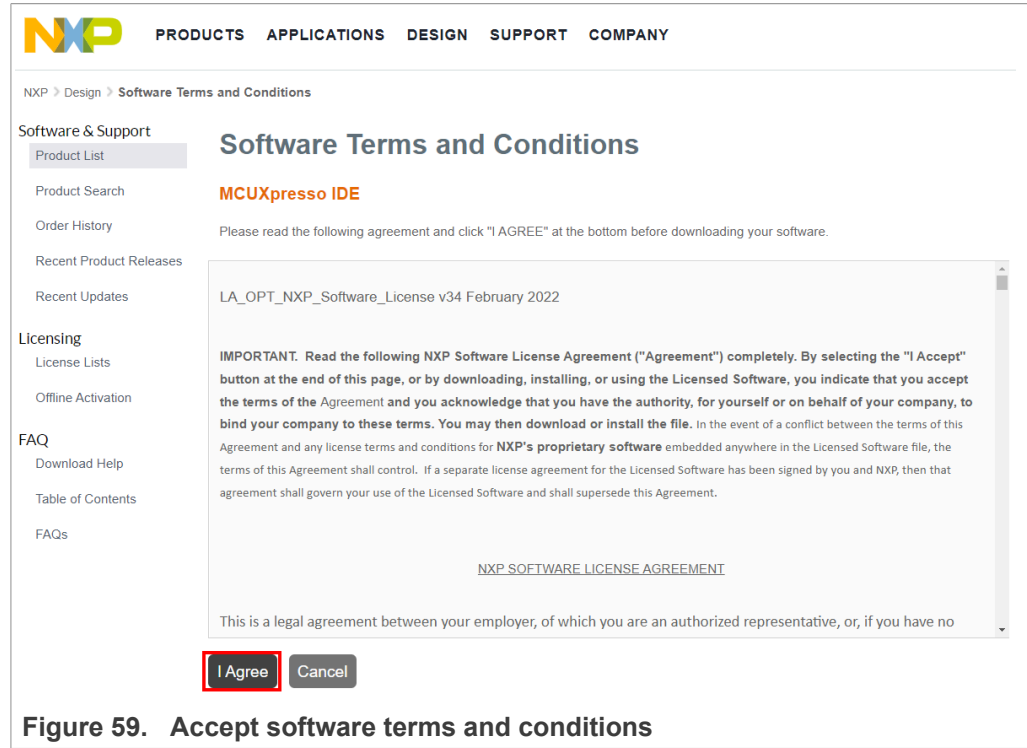

Figure 59. Accept software terms and conditions
5. Accept software terms and conditions as shown in Figure 59: